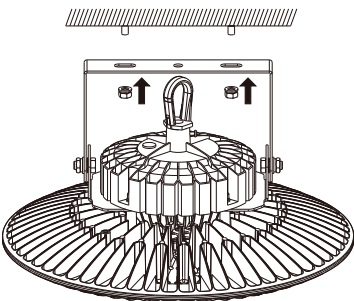

Fig. 6
3. Using 2 screws, secure the bracket to the desired surface. (Figure 6).